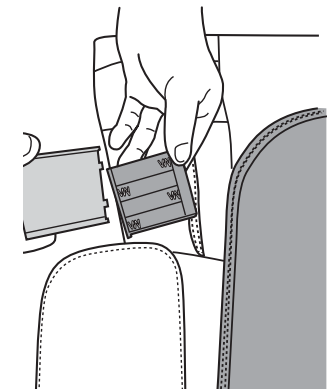

Fig.19
5. Remove the battery compartment cover, then install four AA alkaline batteries (Fig.19).